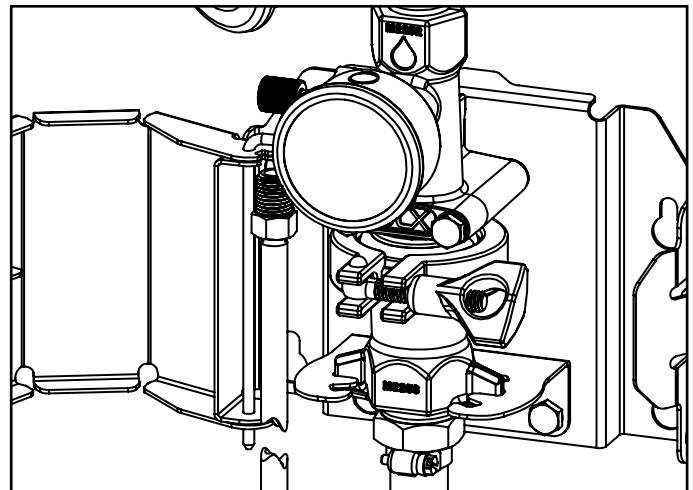

Fig. 8.2: Polypropylene lower support bracket
- **For Polypropylene Models:** Twist the lower airless foamer body and align the winglets to release it from the support bracket. [Fig 8.2]